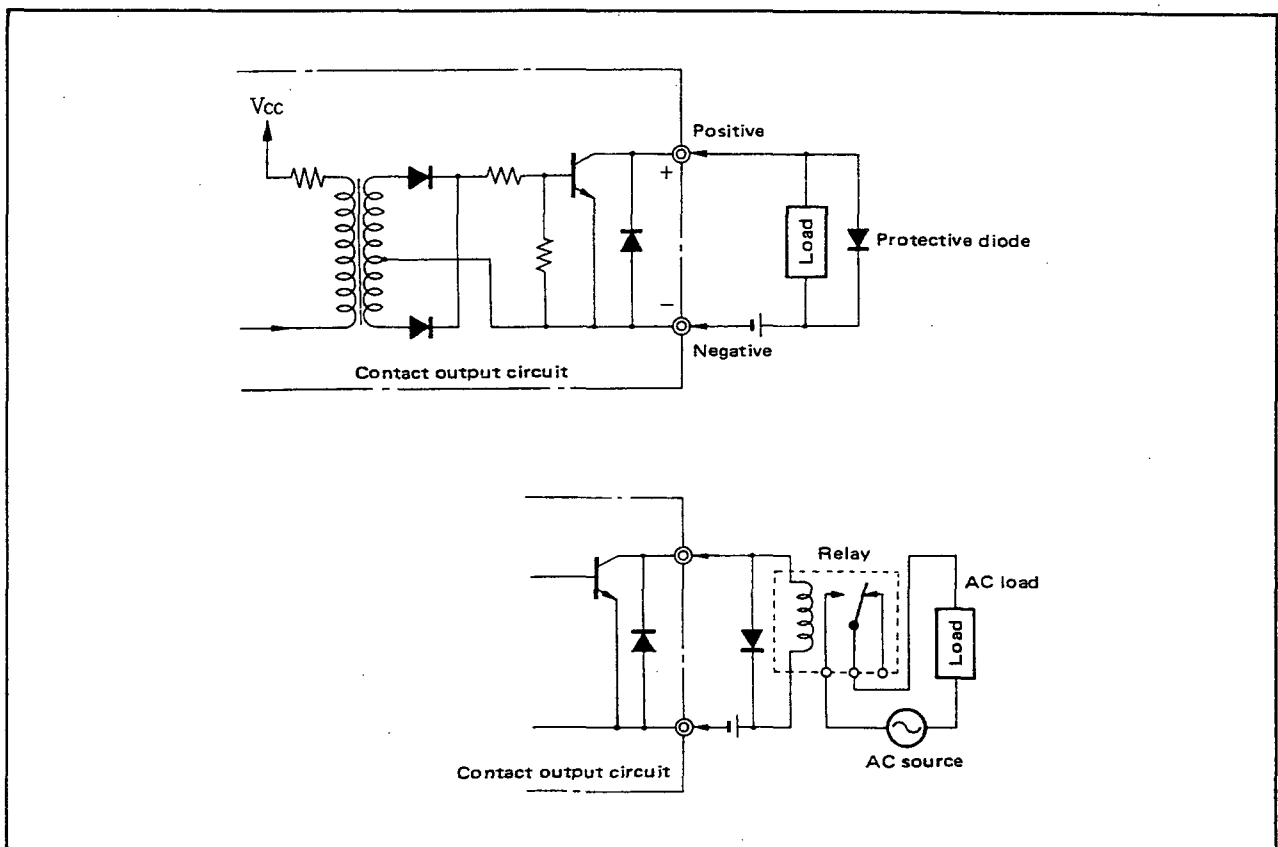

Figure 3-1-3. Connection of Contact Outputs.
- (1) Be sure to terminate all cable connections in solderless crimp-on lugs.
- (2) Each status input contact and voltage input must be as per SLMC specifications. Note the limits on lead-wire resistance, voltage drop in lead-wires, and voltage (high/low) levels. (Refer to the SLMC General Specification at the back of this manual).
- (3) The fail and digital outputs are transistor contact signals, (isolated from power supply and other internal circuitry). When connecting external devices, pay attention to the following: (See Figure 3-1-3.)
- When connecting a relay or other such inductive device, connect a surge absorber (protective diode — Figure 3-1-3, CR circuit, etc.) in parallel with the load.
- Note that contact outputs cannot be connected directly to an AC circuit. Use a relay to switch an AC circuit (see Figure 3-1-3).
- (4) Status I/O signals are specified by a program. If these are not specified, status signals 1 through 3 are used as DIs (inputs) and status signal 4 as a DO (output).
- (5) Use shielded twisted-pair SCCD cable for communication lines (terminals 17, 18).
- (6) Short-circuit unused current output terminals.